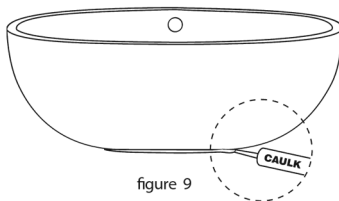

figure 9
18. Run a bead of tub and tile caulk around the bottom edge of the tub where it meets the floor. Wipe off any excess caulk with a wet cloth (figure 9)